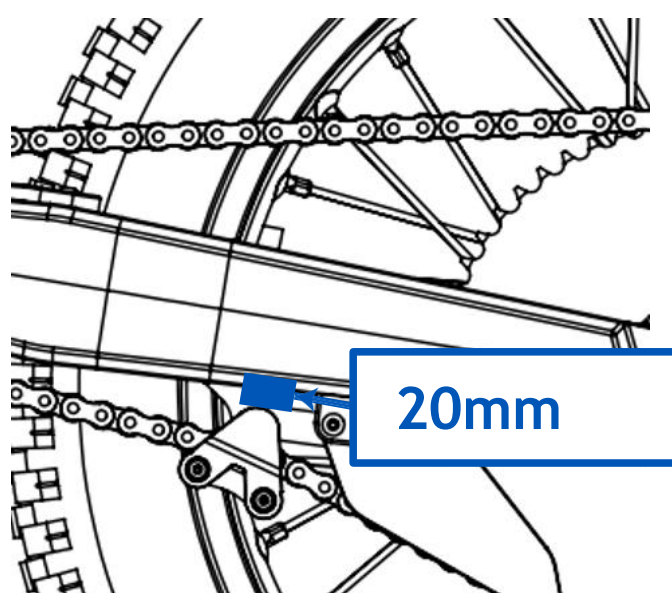

Fig. 22
- Check the chain slack, so that the chain has a play as indicated in this manual, 20 mm (Fig. 22). To check this, you must turn the wheel and check the slack several times, always measuring from the same point. The chain must not have too much play or too much stiffness.
You must check that the front and rear brakes are properly tightened and working properly (Fig. 22). First of all, you must check that the wheels stop when you operate the brake levers while moving the motorcycle.